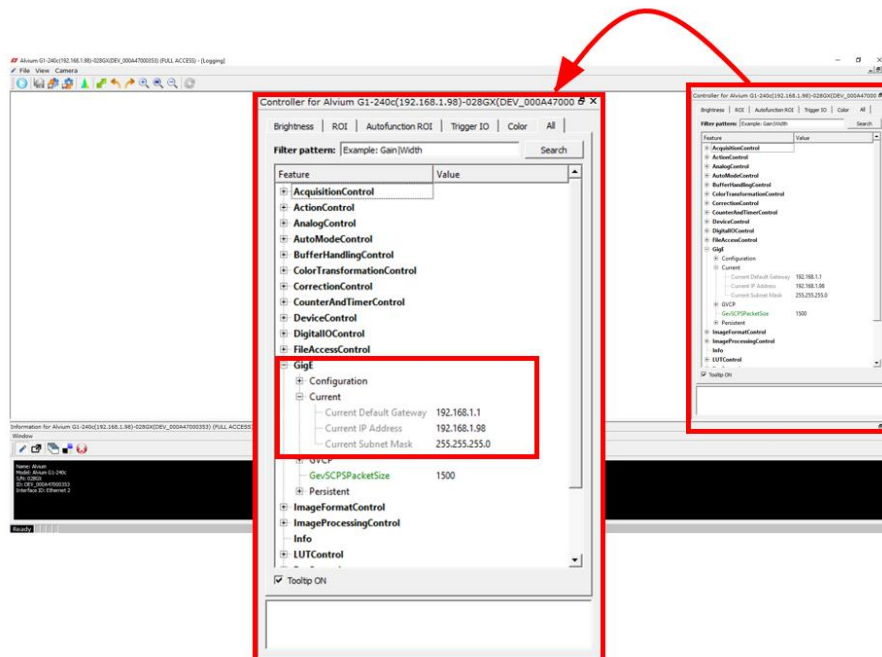

Figure 1-6
- Search for the current IP address in the camera menu (see Figure 1-6). It can be found under All > GigE > Current > Current IP Address. It is recommended to use static IP addresses for the camera(s) since the default configuration is set to Obtain an IP automatically.